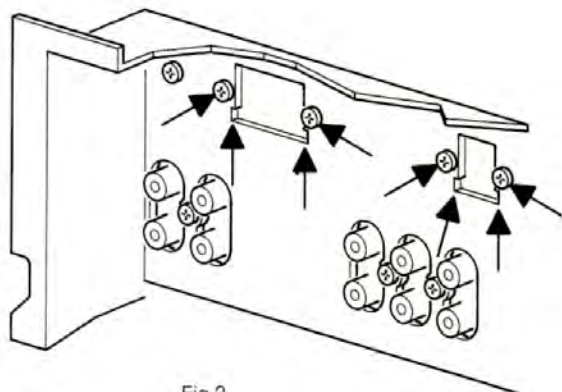
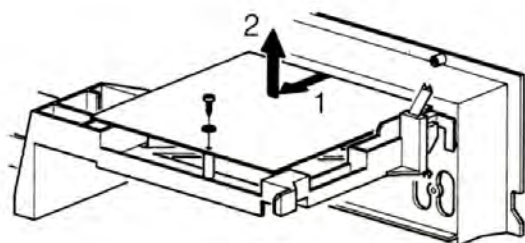

Fig. 2
Fig. 3
- 3) Loosen 4x Torx 10 screws on aerial terminals (see figure 2).
- 4) Loosen 1x Torx 10 on printed circuit board (see figure 3).
- 5) Bend the hidden snaps (shown in fig. 2) with a small screw driver sideways while pulling the PCB as shown in figure 3.